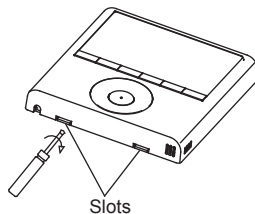

Fig 3-4
- Remove the upper part of the wire controller (Fig.3-4)